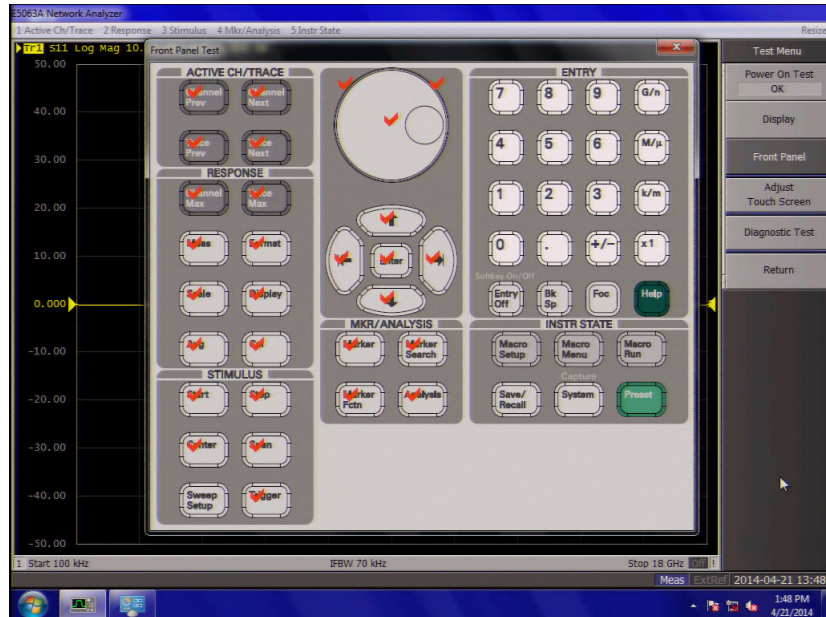

Figure 16 Front Panel Test window 2/2
Step 3. Press the front panel keys. Red ticks will appear on the Front Panel Test window whenever the corresponding key on the front panel is pressed as shown in **Figure 16**. Turn the rotary knob clockwise or counterclockwise. Red ticks will